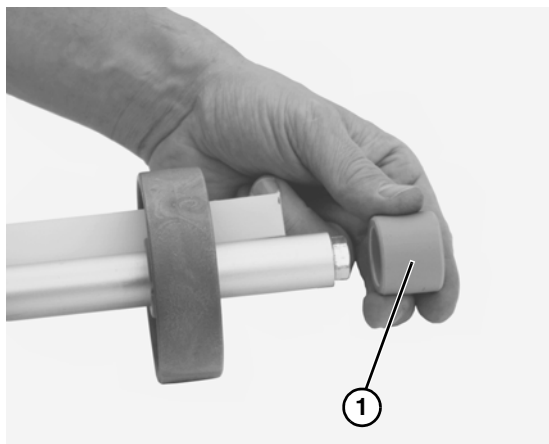

Figure 83
7. Remove tube spacer from shaft (**Figure 83, item 1**).